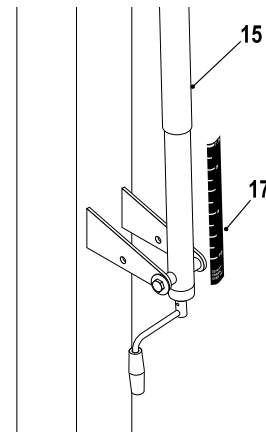

Figure 12
- 20. Adjust unit to lowest position. Use a tape measure to measure from the top of the rim to the playing surface. Stick Height Decal (#17) to back of Actuator (#16) with the measured height mark aligned with bottom of Actuator Sleeve (#15). See Figure 12.